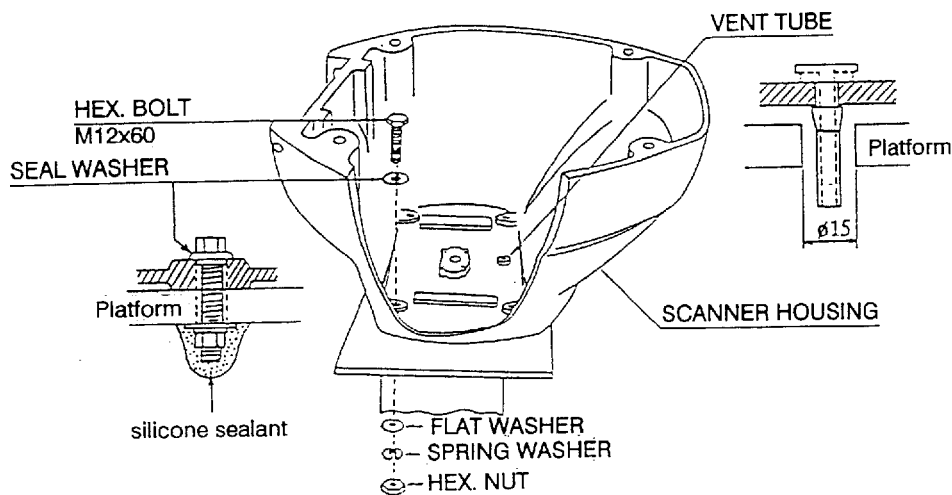

Figure 6-2 Mounting the Scanner Housing
4. Insert the M12x60 hex. bolts with the seal washers from inside the scanner housing so that they will not touch the transceiver module. Before securing housing with washers and nuts coat them with silicone sealant. Then, coat exposed parts of nuts and washers as shown in Figure 6-2.
*2. Be certain to install the seal washer with the larger diameter under the head of the bolt as shown below in Figure 6-2.*